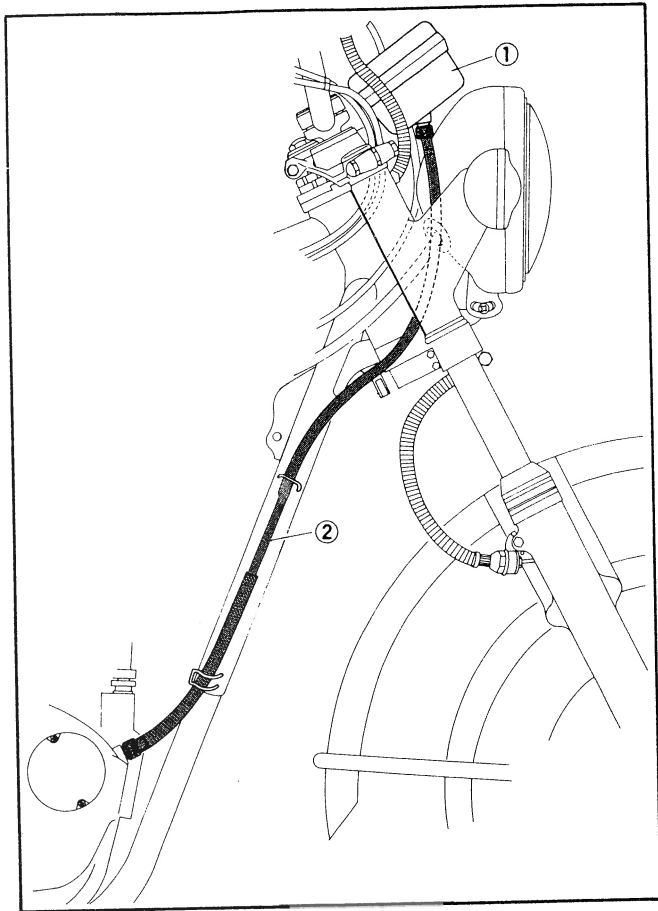

Fig. 22
18. Connect the tachometer cable to the tachometer. For detailed cable routing, refer to illustration. (Fig. 22)